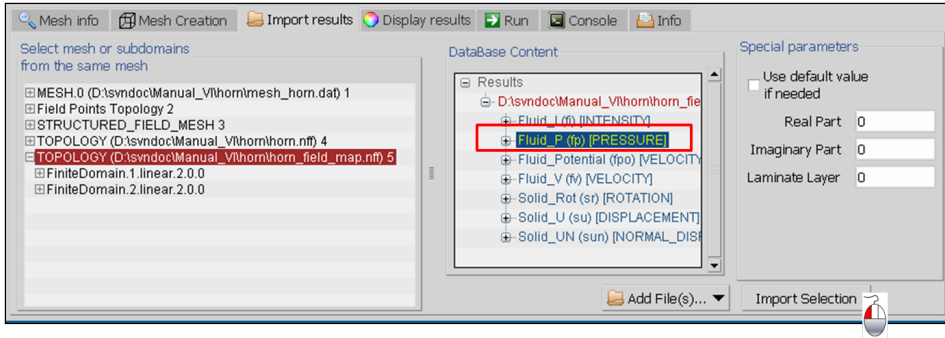

Figure 6.58: Import pressure results on the field mesh
- *In the Toolbox → Import results tab, import the pressure results on the field mesh (Figure 6.58).*